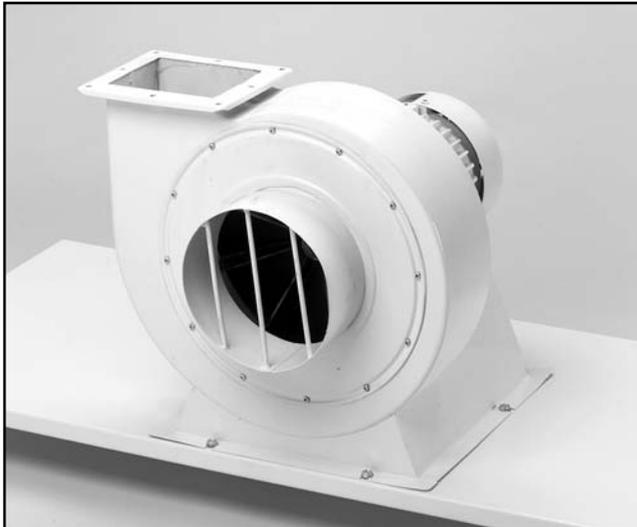

Figure 9. Mounting the impeller/motor to the base.
The impeller/motor assembly consists of the fan assembly, switch, motor, and power cord. These are preassembled at the factory. Set the impeller/motor assembly on top of the base so the intake portion is near the edge of the base plate and the bolt holes are aligned with one another as shown in **Figure 9**. Attach the impeller/motor assembly to the base with (4) $\frac{5}{16}$ " - 18 x $\frac{1}{2}$ " bolts.